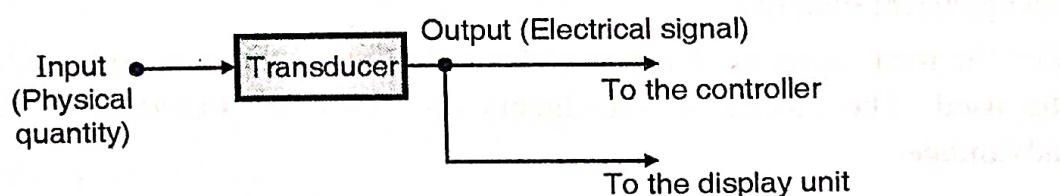

Fig. 1.2.1 : Transducer
- The electrical signal obtained from the transducer is then used to control the physical quantity automatically and/or to display the same, as shown in Fig. 1.2.1.